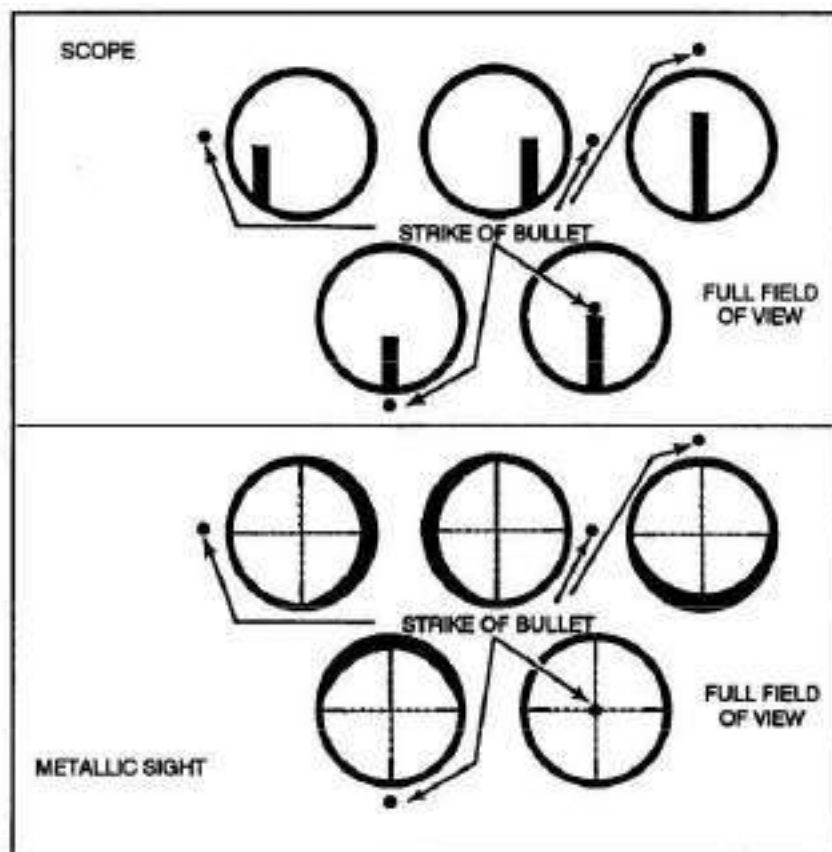

Figure 3-17. Sight alignment.
b. Sight Alignment. With telescopic sights, sight alignment is the relationship between the cross hairs (reticle) and a full field of view as seen by the sniper. The sniper must place his head so that a full field of view fills the tube, with no dark shadows or crescents to cause inaccurate shots. He centers the reticle in a full field of view, ensuring the vertical cross hair is straight up and down so the rifle is not canted. Again, the center is easiest for the sniper to locate and allows for consistent reticle placement. With iron sights, sight alignment is the relationship between the front and rear sights as seen by the sniper (Figure 3-17). The sniper centers the top edge of the front sight blade horizontally and vertically within the rear aperture. (The center of aperture is easiest for the eye to locate and allows the sniper to be consistent in blade location.)